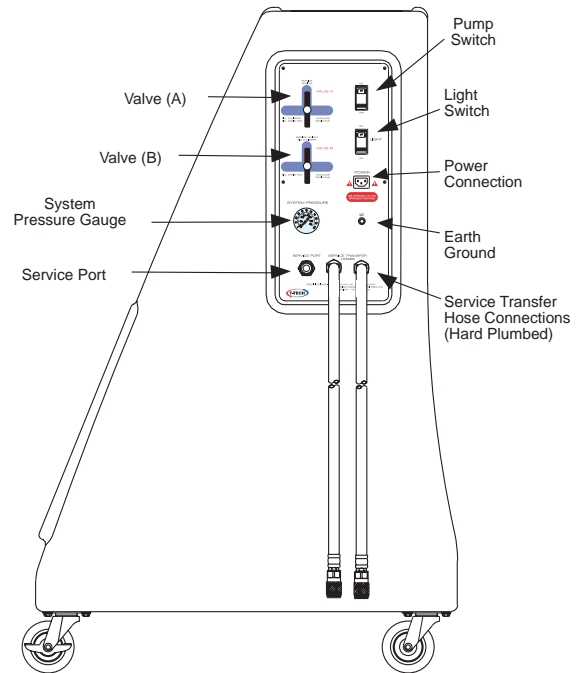

Figure 50. TT500 Side View
3. Start the vehicle. The pressure gauge (on the side of the unit, see Figure 50 or Figure 51) should read between 10 and 50 lbs. (69 and 345 kPa) depending on the vehicle being serviced. If the pressure is below 10 lbs. (69 kPa) and the piston is not moving in an upward direction, see TROUBLESHOOTING.